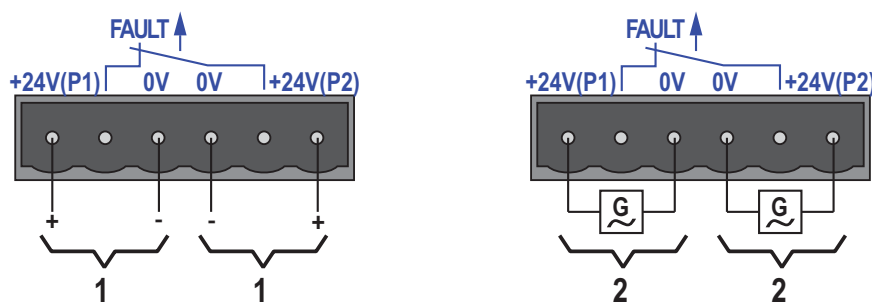

Figure 18: Connecting the supply voltage to the 6-pin terminal block
You can choose between DC or AC voltage when connecting the supply voltage. Use the +24V and 0V pins to connect A/C power (see figure 18).
- ▶ The signal contact ("FAULT", pin assignment of terminal block see figure 18) is used to monitor the device function, and thus supports remote diagnostics. You can specify the type of function monitoring in the Management.